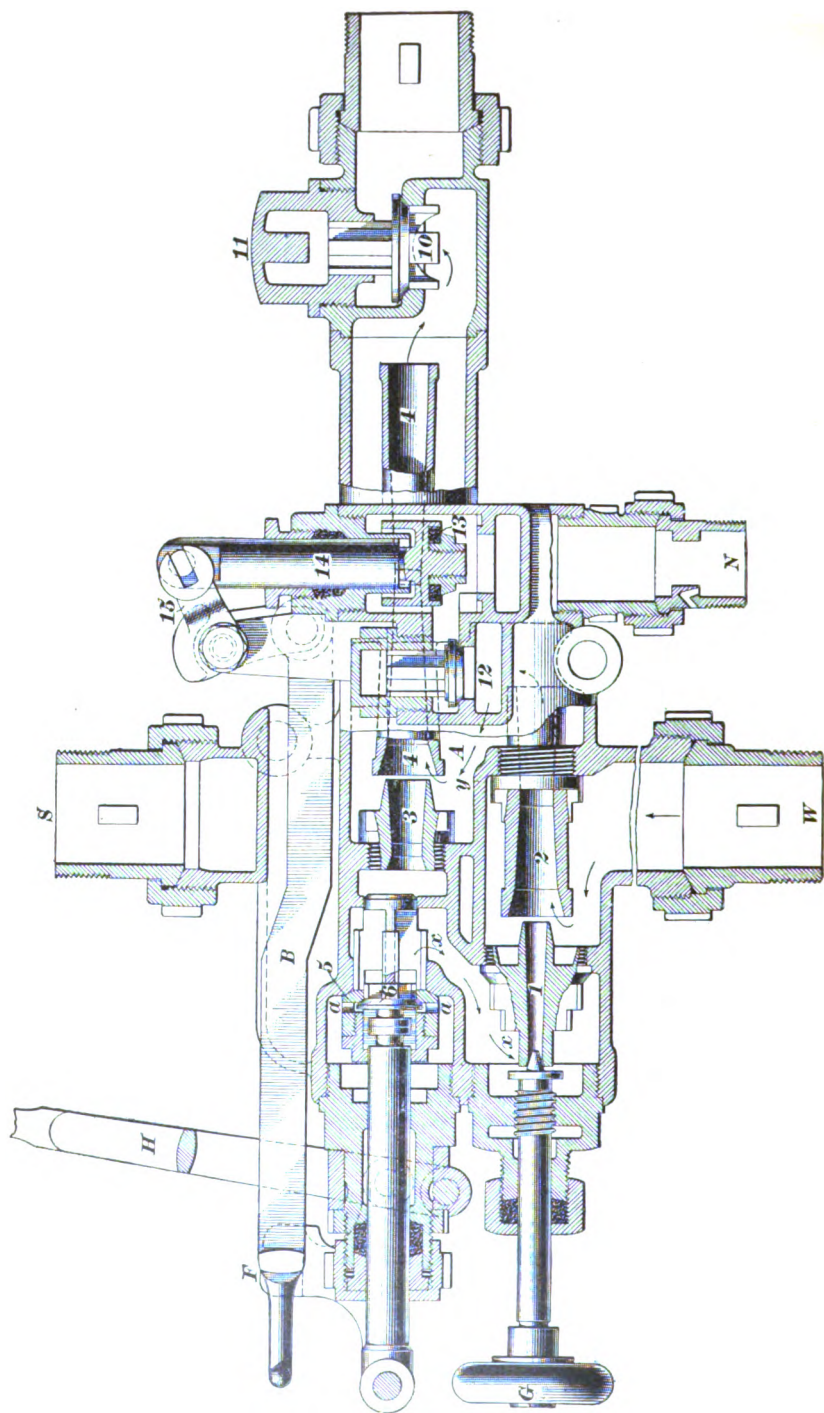

FIG. 14
**35. Description.**—In Fig. 14 is shown a sectional view of the **Metropolitan injector**, a type that differs considerably from the others here shown, it being what is known as a **double-tube injector**. It contains two sets of tubes—a *lifting set* and a *forcing set*, the former of which lifts the water up through the suction pipe and delivers it to the forcing set under pressure, this latter set then forcing the water into the boiler.